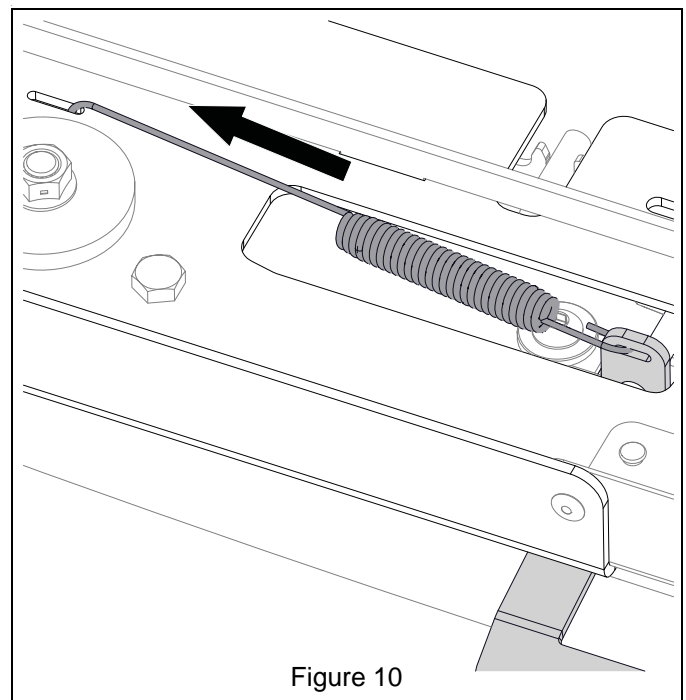

Figure 10
17. Install extension spring and connect to seat latch and slot in isolator mount seat plate. See Figure 10.